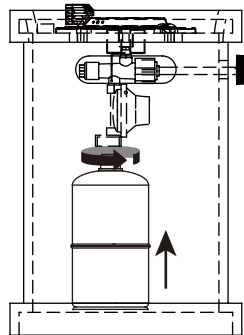

Figure 3
4. Connecting propane cylinder (See Figure 3)